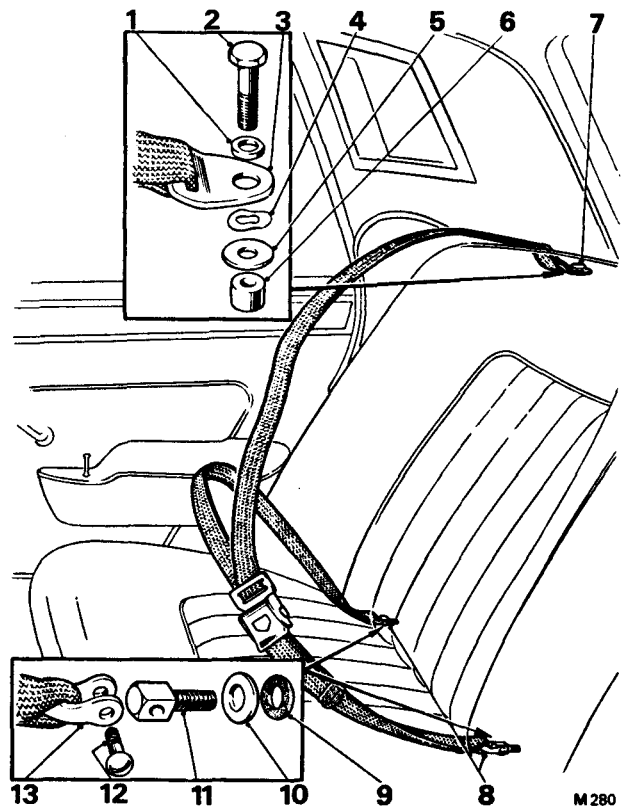

FIG. S105 BRITAX LAP AND DIAGONAL REAR SEAT BELT IN POSITION (Early 4-Door Saloon Cars)
- (a) **Shackle type belt lug anchorage** (see Fig. S105). On belts with this type of anchorage, remove the screw (or the nut and bolt in some cases) securing the shackle on each end of the lap belt to the eye bolt in the seat pan.
1. When fitting a lap and diagonal seat belt, secure the upper lug of the diagonal strap to its anchorage as shown in Figure S105 noting the correct order of assembly for the distance pieces and washers; ensure that the crank of the lug is uppermost and that the waved washer is not trapped by the small distance piece.
2. On cars fitted with seat belts having shackle type belt lug anchorages (see Fig. S105), ensure that the screws securing the shackles to the eye bolts in the rear seat pan are at right angles to the centre line of the car.